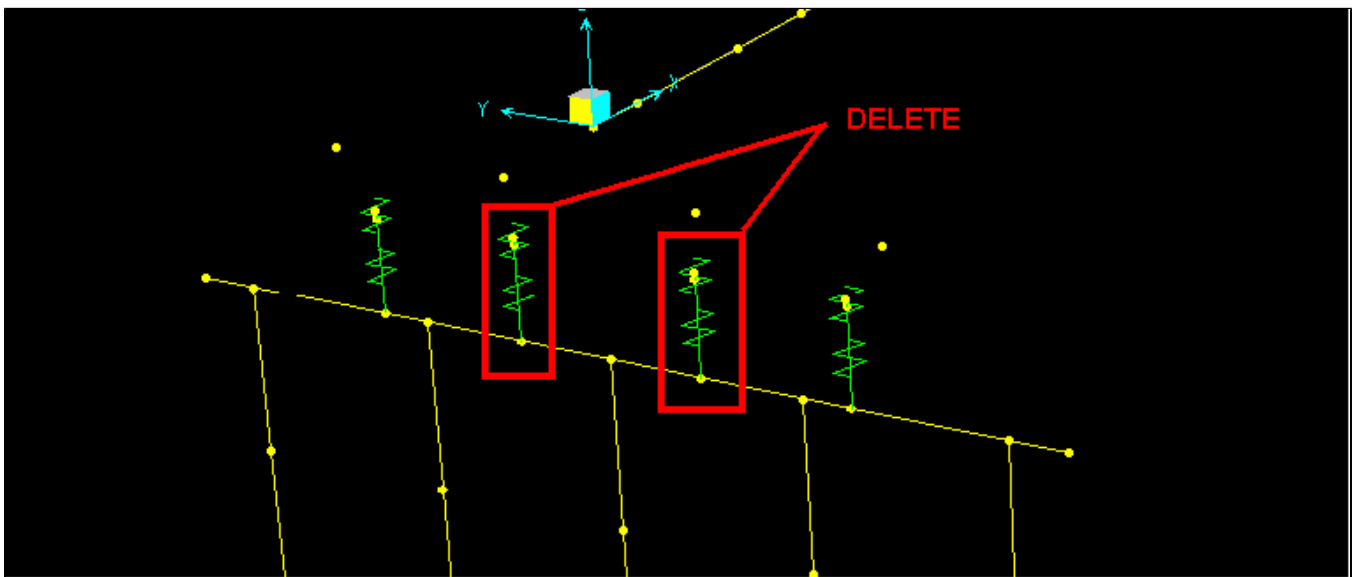

Figure 1 - Delete interior bearings
- Delete the interior-girder bearing links and associated joints automatically produced, as shown in Figure 1: